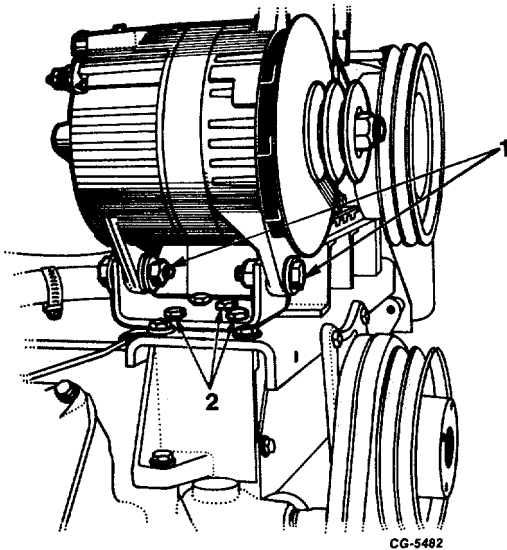

Fig. 17 Remove Alternator
8. Remove two alternator to mounting bracket bolts. Remove alternator. Remove four mounting bracket bolts and remove bracket (Figure 17).